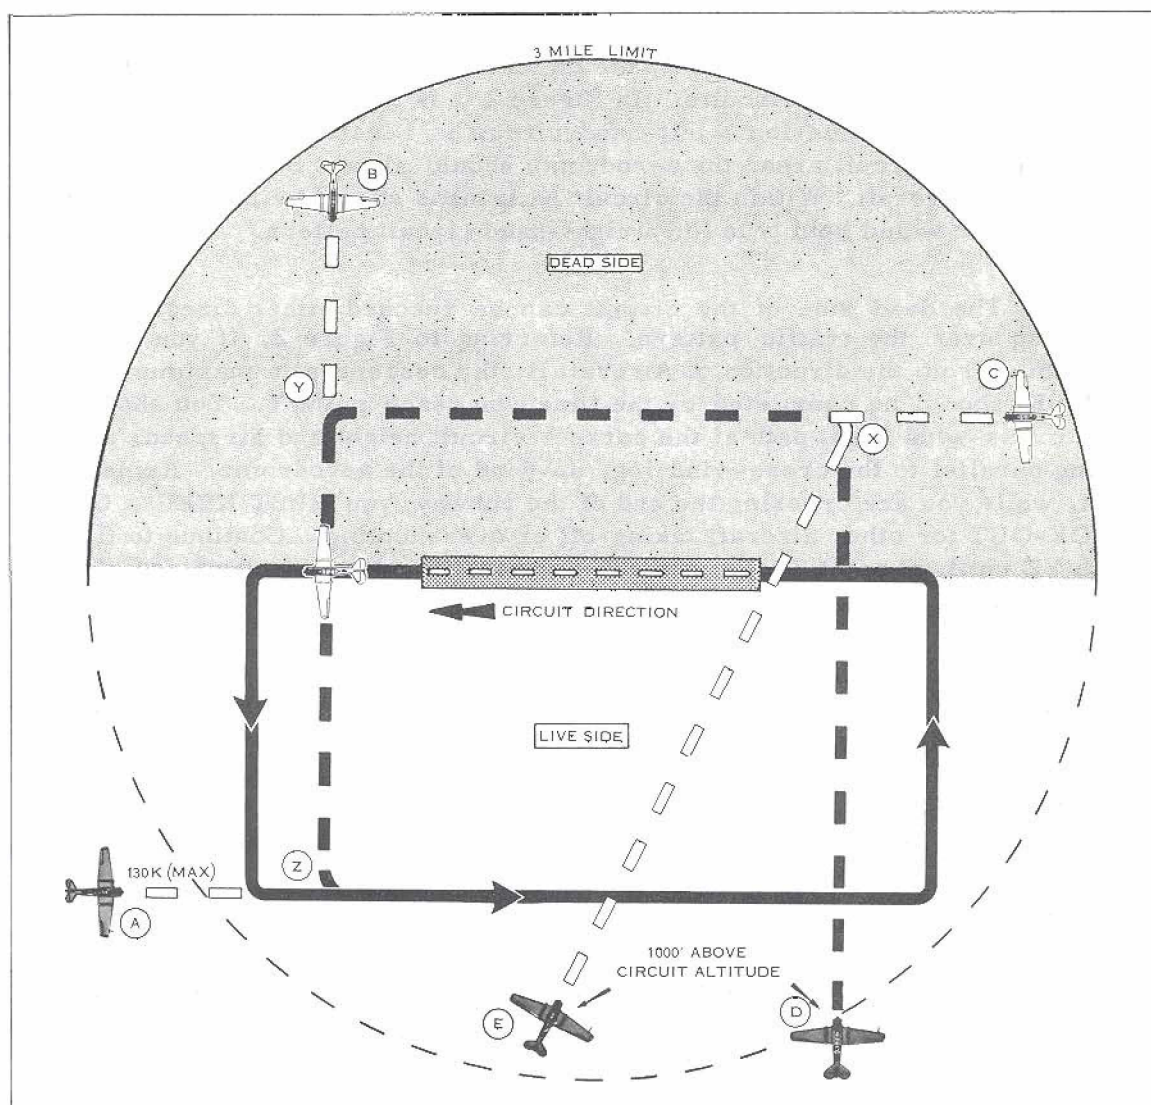

Figure 2: Entry to the Circuit
and are up-wind of the active runway, you may descend to circuit height (1,000 feet AGL) in preparation for joining the circuit. ALL TURNS AND DESCENTS MUST BE MADE OUTSIDE A THREE MILE RADIUS FROM THE RUNWAY IN USE, and any turns in the immediate vicinity of the three mile radius must conform to circuit direction. The maximum airspeed within 3 miles of the aerodrome, and in the circuit, is 130K. Adjust the power to 25" MP and 1750 rpm while positioning the aircraft in line with the down-wind leg on the down-wind heading, and keep wing-tip distance away from the active runway, correcting for drift if necessary. The point at which you join the pattern, as shown in Figure 2 position A, is the intersection of the cross-wind and down-wind legs: consequently YOU MUST KEEP A LOOK-OUT FOR AIRCRAFT ALREADY IN THE CIRCUIT.
(6) ENTRY FROM THE DEAD, OR INACTIVE, SIDE - The dead side of the traffic pattern is all the airspace on that side of the runway which is not being actively used for circuits. (In Figure 2 it is the shaded area.) For the purpose of this discussion a left-hand circuit is illustrated, thus, when approaching the circuit area, the aerodrome should always be on the left of the nose of the aircraft. Within the circuit ALL turns should be made to the left. The opposite would hold true for a right-hand circuit pattern.
(7) The dead side of the circuit can be reached either directly, or by crossing over the traffic pattern. Referring to Figure 2, if you are approaching from the direction of Aircraft B, the descent (at a maximum speed of 130K) should be completed by the time you reach point Y. You should be on a cross-wind flight path at the correct circuit height and airspeed, and be flying parallel to the cross-wind leg, up-wind of the aerodrome. Remember that, while you are crossing the end of the runway, you MUST KEEP A GOOD LOOK-OUT for other aircraft taking-off or overshooting. Continue to fly the path YZ until, at point Z, you can enter the traffic pattern by turning onto the down-wind leg.
(8) The procedure for an aircraft approaching from the direction of Aircraft C is similar, except that the descent is made while flying parallel to the runway, on the dead side. The descent should be timed so that the aircraft is at circuit height and airspeed before turning cross-wind at point Y. The turn is made approximately midway between the up-wind end of the live runway and the point where circuit aircraft are levelling-off from the climb after take-off.
(9) ENTRY FROM THE LIVE SIDE - When approaching the circuit from the live side, as shown by Aircraft D and E, you must be at least 1,000 feet above circuit height while crossing over the traffic pattern. Once point X is reached, a turn can be made parallel to the runway, and you can start to descend as previously described. In Figure 2 the path of Aircraft D, the preferred method of entry, has been shaded to correspond with the shading of the circuit itself.